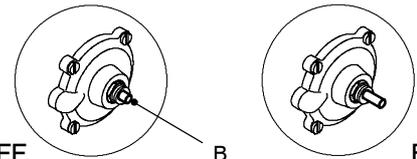

Fig. 2
- 3 Looking through the switch box verify the position of the lever B referring to Fig. 2.